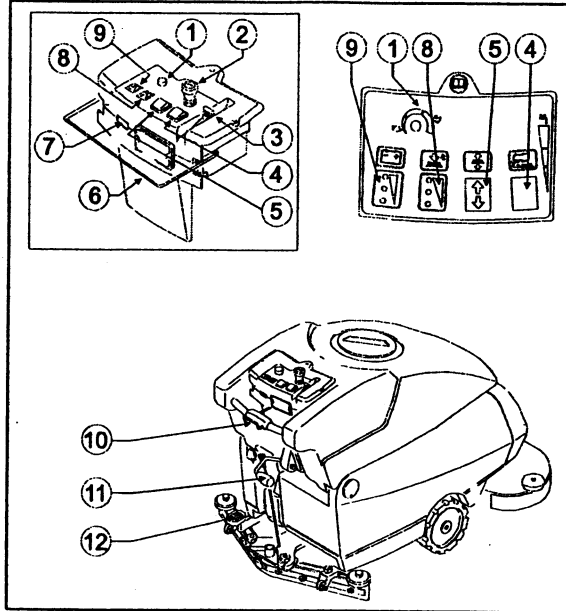
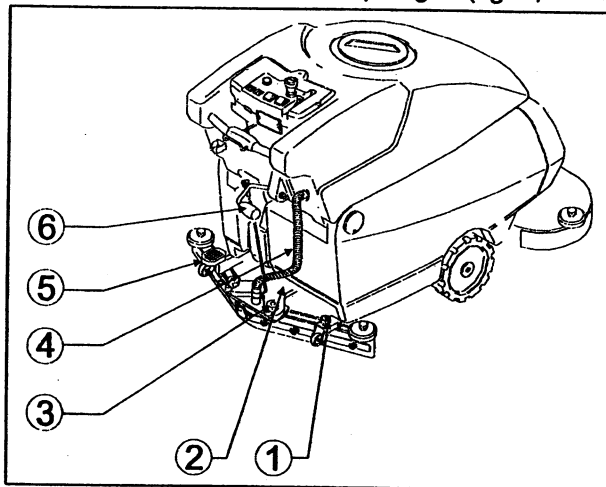
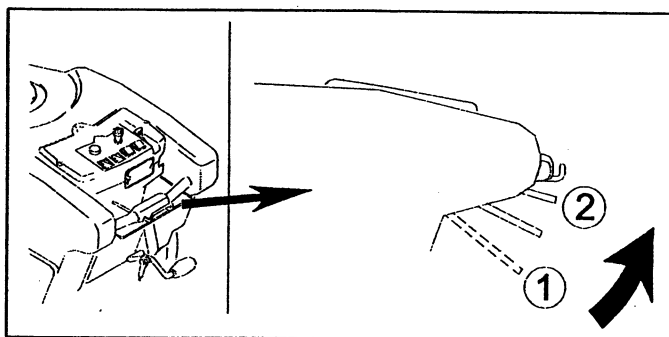

Fig. 8
Fig. 9
Fig. 10
- 1) Stop the machine and press the emergency button (fig. 8, ref. 2); engage the parking brake by means of the pedal (fig. 8, ref. 12);
With reference to fig. 8 the machine has the following controls and leds:
- 1) Stop the machine and press the emergency button (fig. 8, ref. 2); engage the parking brake by means of the pedal (fig. 9, ref. 5);
- 2) check that the squeegee supporting plate (fig. 9, ref. 2) is raised, otherwise lift it by acting on the proper lever (fig. 9, ref. 6);
- 3) firmly push down the sleeve of the suction tube (fig. 9, ref. 4) into the squeegee;
- 4) slacken the two knobs (fig. 9, ref. 3) placed in the centre of the squeegee;
- 5) insert the two threaded dowels in the slots of the support (fig. 9, ref. 2);
- 6) fix the squeegee by tightening the knobs (fig. 9, ref. 3).
To obtain a perfect drying action it is necessary to adjust the squeegee in such a way that when it is in operation, the rear blade lip is bent about 45 degrees with respect to the floor at all points. It is possible to adjust the inclination of the blades by screwing down the nuts (fig. 9, ref. 1): by unscrewing the nuts the blade inclination is reduced, while by screwing the nuts the blade inclination is increased.
- raise the head by pressing the brush up-down button (fig. 8, ref. 5) on the arrow up;
- disengage the parking brake via the pedal (fig. 8, ref. 12);
- insert the key to release the emergency button (fig. 8, ref. 2);
- below the handgrip is a lever (fig. 8, ref. 6): by pulling the lever up (fig. 10, ref. 2) or pressing it down (fig. 10, ref. 1), according to whether you wish to move forward or back, the drive motor is switched on and the machine will begin to move;
- adjust the running speed via the potentiometer (fig. 8, ref. 1);
- once you have reached your destination, engage the parking brake via the pedal (fig. 8, ref. 12).
- Raise the head by pressing the brush up-down button (fig. 8, ref. 5) on the arrow up;
- press the brush release button (fig. 8, ref. 4) for a couple of seconds: when the button is released, the brushes will be released.
- press the brush up-down button (fig. 8, ref. 5) on the arrow down and keep it pressed until the first led of the brush pressure indicator comes on (fig. 8, ref. 8); in this phase the brush motor may come on and then switch off for a few moments: this is a normal part of the brush engagement procedure.
- check that the cock control lever (fig. 8, ref. 3) is at the position "off";
- lower the head by pressing the brush up-down button (fig. 8, ref. 5) on the arrow down;
- check that the squeegee (fig. 2, ref. 8) is fixed well and connected to the suction tube (fig. 9, ref. 4); make sure that the rear blade is not worn.
- insert and operate the key to release the main switch (fig. 8, ref. 2) and enable all the machine functions: the battery charge level indicator will come on (fig. 8, ref. 9);
- move the cock lever (fig. 8, ref. 3) to the position of minimum flow of solution: the detergent solution begins to reach the brushes;
- press the brush up-down button (fig. 8, ref. 5) on the arrow down: the head will begin to move down and as soon as the brushes touch the floor the brush motors will come on. As the brushes rotate, the solution is distributed over the floor;
- lower the squeegee by means of the proper lever (fig. 8, ref. 11): the suction motor comes on;
- press the drive lever (fig. 8, ref. 6) placed under the handgrip: the drive motor is started and the machine starts moving forward;
- check cleaning quality during work and adjust, as required, the flow of solution sent to the brushes (by rotating the cursor (fig. 8, ref. 3)) and the pressure exerted by the head-brushes on the floor (via the brush up-down button (fig. 8, ref. 5) until the test pressure indicator (fig. 8, ref. 8) indicates the required level).